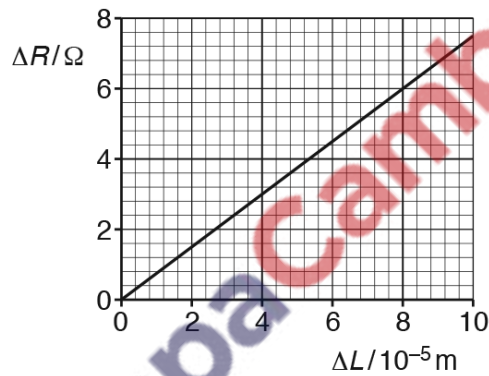
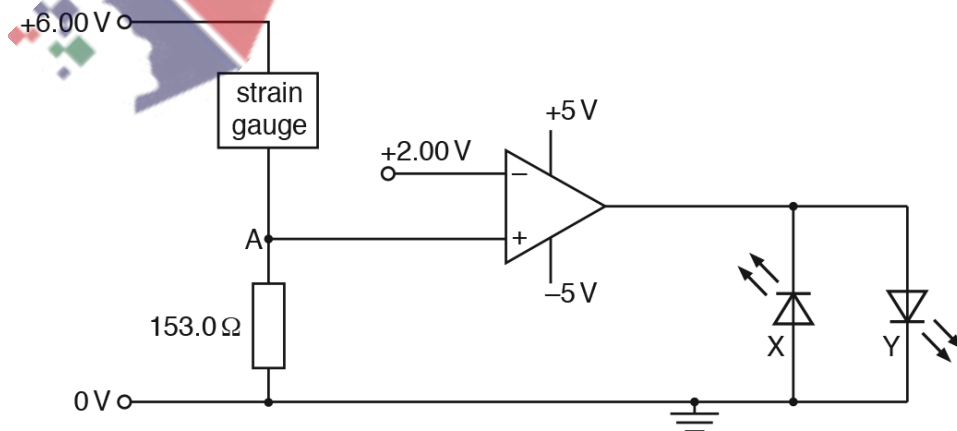

Fig. 7.1
Fig. 7.2
- (b) In a strain gauge, the increase in resistance ΔR depends on the increase in length ΔL . The variation of ΔR with ΔL is shown in Fig. 7.1.
The strain gauge is connected into a circuit incorporating an ideal operational amplifier (op-amp), as shown in Fig. 7.2.
Use data from Fig. 7.1 to calculate the increase in length ΔL of the strain gauge that gives rise to a potential of $+2.00\text{V}$ at point A in Fig. 7.2.